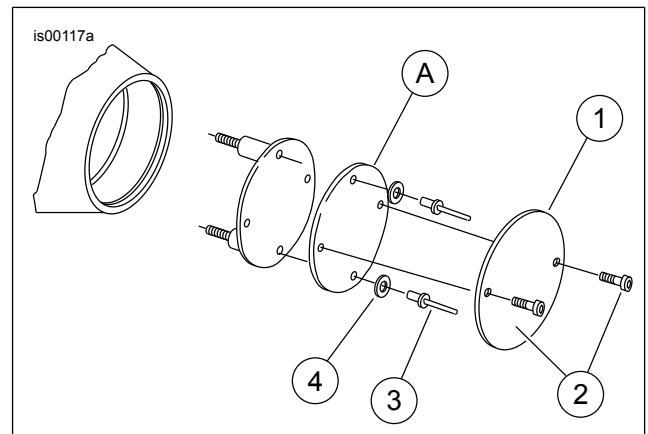
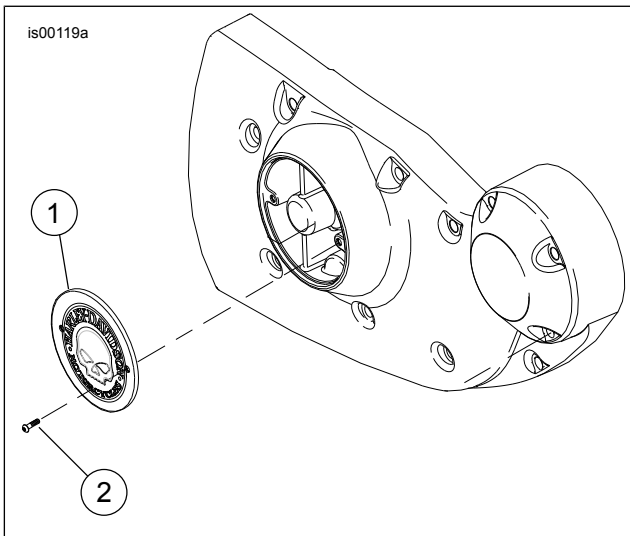

Figure 1. Timer Cover Kits: 32584-88TA, 32668-98A and 32571-98A
Figure 2. Timer Cover Kits: 32972-04A, 32675-04A, 32520-10, 32581-90TB, 32541-10, 25600003, 25600009, 25600025, 25600027
See Figure 1 and Table 1, and Figure 2 and Table 2.
1. See Figure 2. Remove and discard the original screws and timer cover.
2. Place new timer cover (1) in position and secure with chrome screws (2).
3. See Figure 1. Place washers (4) over rivets (3) and place rivets into inner cover holes so the backs of the rivets go into the tapped holes for the sensor plate screws.
5. Use the self-tapping screw (5) to cut threads into the remaining inner cover holes. Discard screw after use.
6. Place new timer cover (1) in position over inner cover (A) and secure with chrome screws (2).